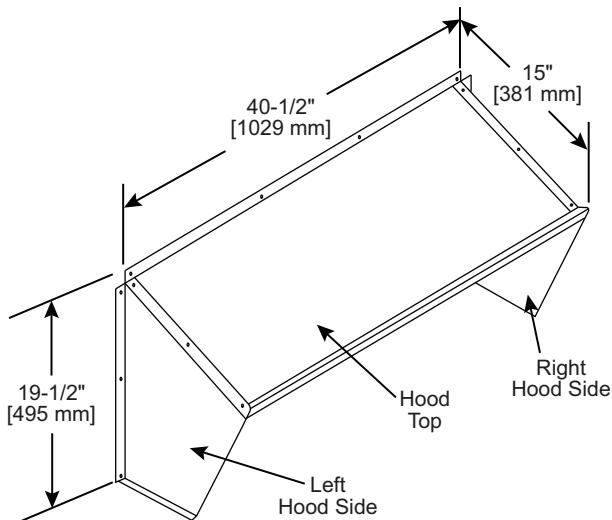

Fig. 21 — CRBARHOD001A00 Hood Sides and Top
- Using the provided hardware, screw the CRBARHOD001A00 hood sides and top together (see Fig. 21).